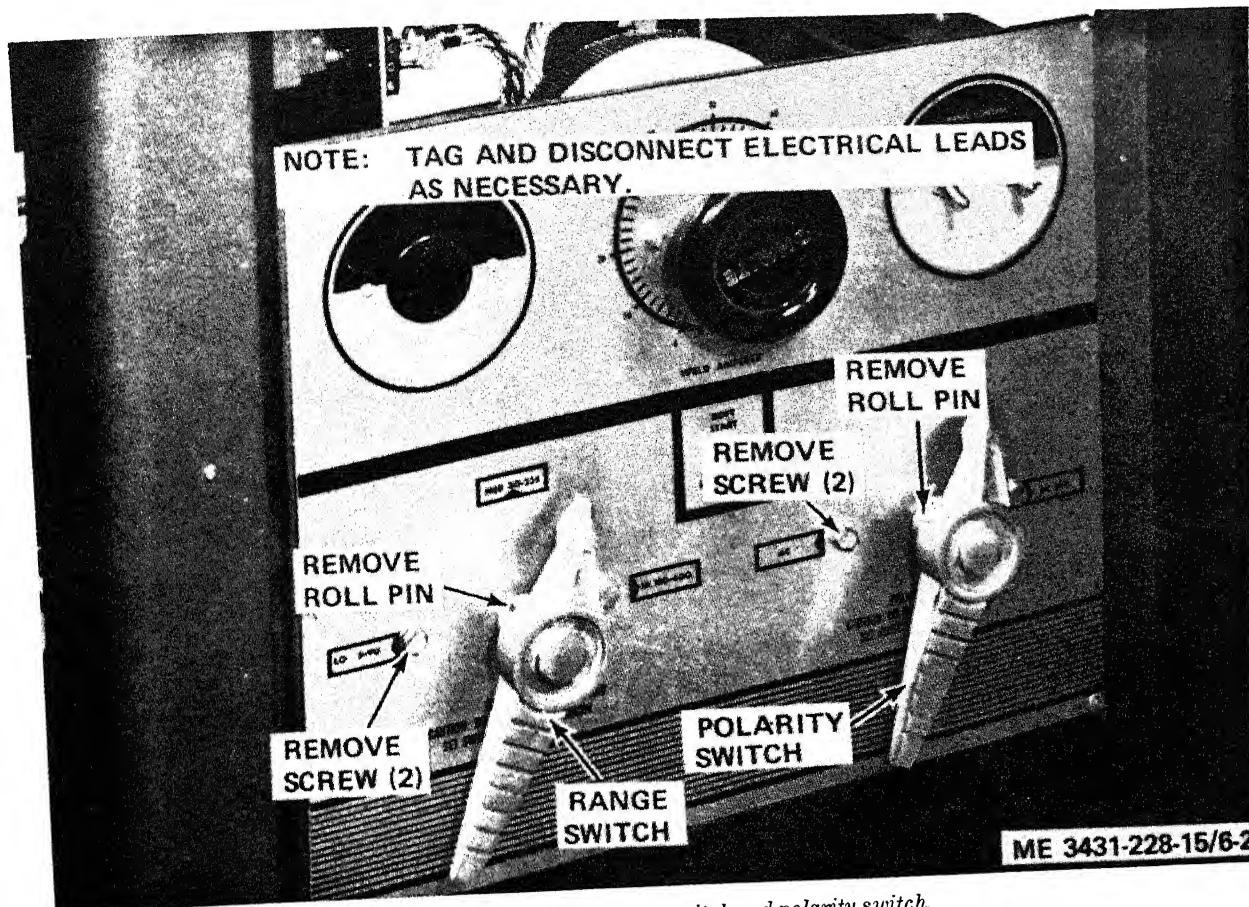

Figure 6-2. Range switch and polarity switch, removal and installation.
(5) Refer to figure 6-2 and remove the switches from the rear of the panel.
(1) Refer to figure 6-2 and install the switches.
(2) Install the screws around the bottom edge of the front panel.
(3) Install the top and housing (para 3-20).
(4) Install the timer and high frequency drawer (para 3-19).